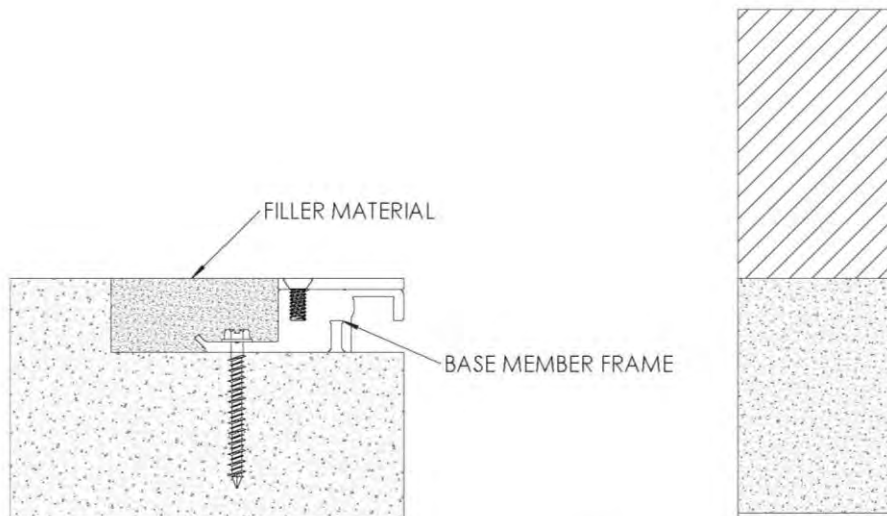

FIGURE 2
2. Protect the exposed surface of the expansion joint and then grout in the blockout level with the surrounding floor. **See Figure 2**